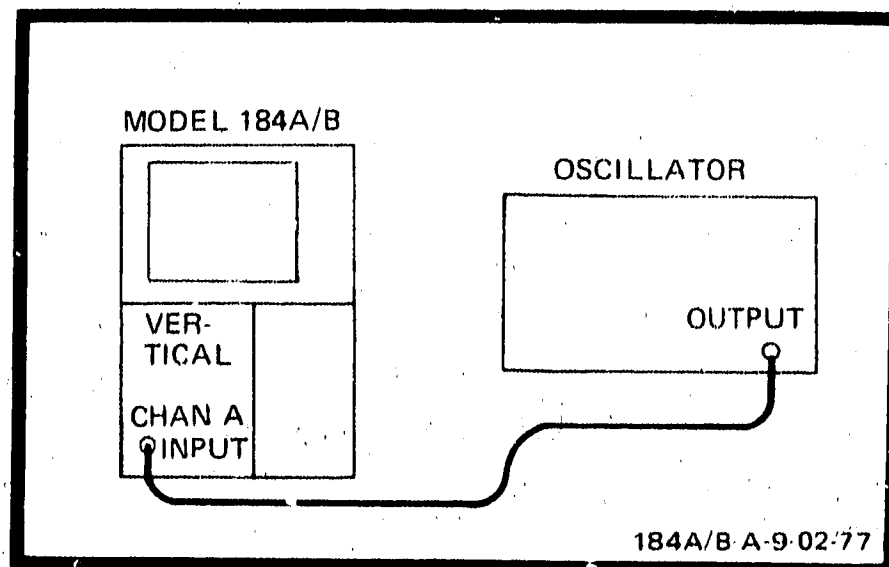

Figure 5-15. Fast Writing Rate Adjustment
t. Connect oscillator 8.5-MHz sine wave output to vertical amplifier input (figure 5-15).